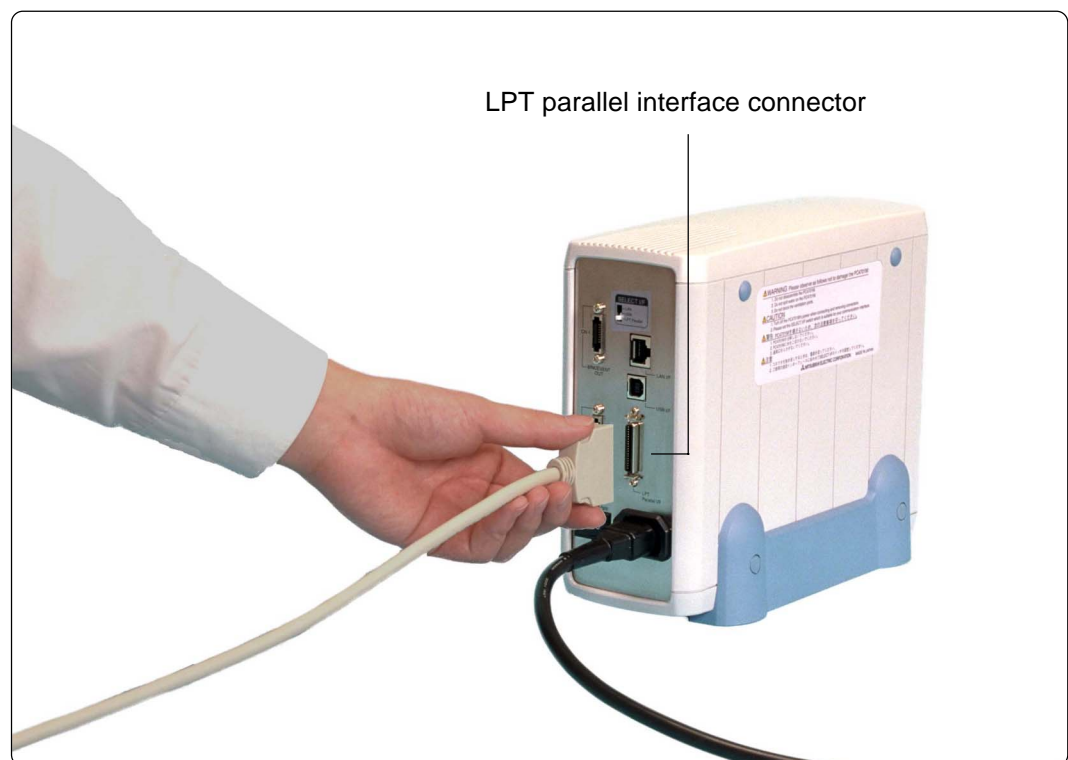

Figure 4.8 Connecting LPT parallel interface cable (emulator PC4701U side)
▶ Figure 4.8 Connecting LPT parallel interface cable (emulator PC4701U side) (P.35)